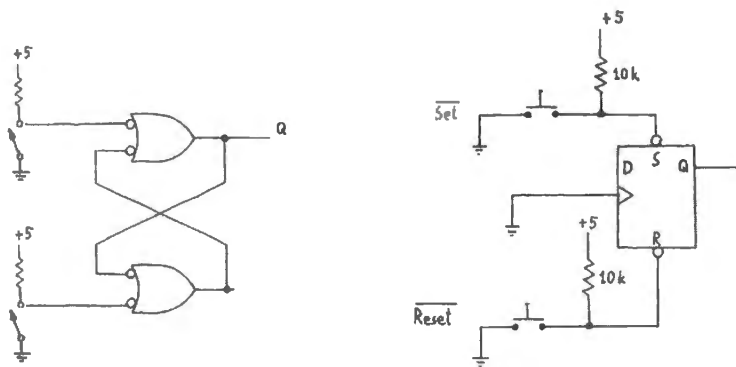

Figure 15S.3 SR flop, made with a D flop IC.
Simplest: set/reset (SR) flop: asynchronous set and reset: Figure 15S.3 shows a SET*/RESET* circuit done with a standard D-flop (usually that's easier than building the thing with gates). We've also shown the SR as you might build it with gates.
This simple circuit can be designed in Verilog in either of two ways, more or less mimicking the two circuits sketched in Fig. 15S.3: